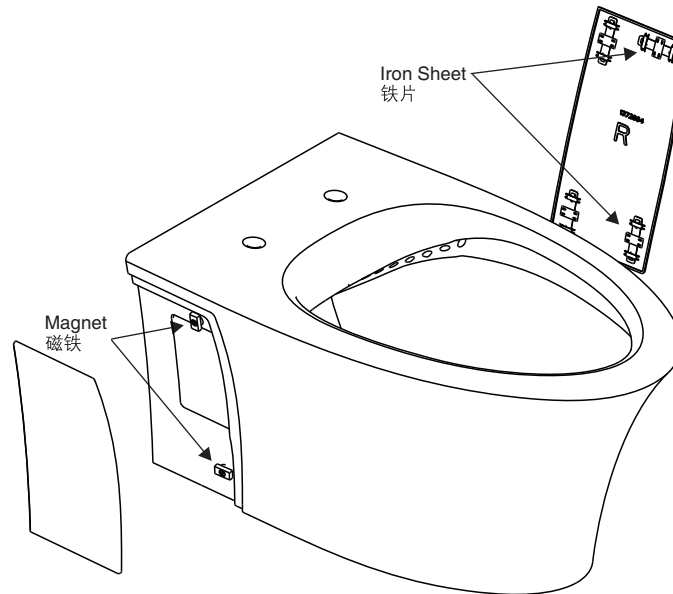

Fig. #6 图6
NOTE: The left panel (L) and right panel (R) are not interchangeable and they shall be respectively fixed onto the left side and right side of the bowl as shown in Fig.6.
注意：左右侧板不可相互替换，左侧板（L）和右侧板（R）对应陶瓷的左、右侧，如图6。